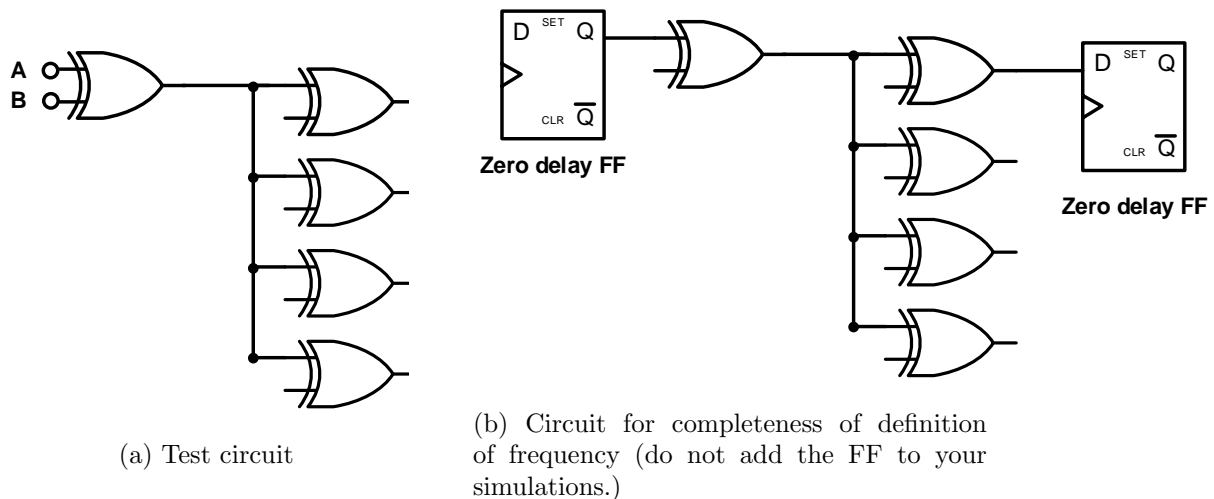

Figure 10: FO4 circuit
Now create a new schematic to simulate the FO4 case, name it *FO4*. Insert the XOR2 and load it with 4 copies of itself. The circuit should look like Fig. 10(a). Perform the simulations for a typical environment, and observe the changes with respect to the FO1.
Assuming a simple sequential path consisting of one zero-delay flip-flop (as in Fig. 10(b)), one FO4 XOR2 gate driving four (4) FO1 XOR2 gates and a second zero-delay flip-flop, determine the maximum frequency in which we can operate the circuit. **Note that you do not need to draw a new schematic including the FF, nor do you need to simulate it. The requested frequency bound can be computed from the basic combinational logic simulation of Fig. 10(a).**
14. What is the maximum frequency that can be achieved in a synchronous circuit as Fig. 10(b) if $t_{setup} = 0$ and $t_{clk-out} = 0$?